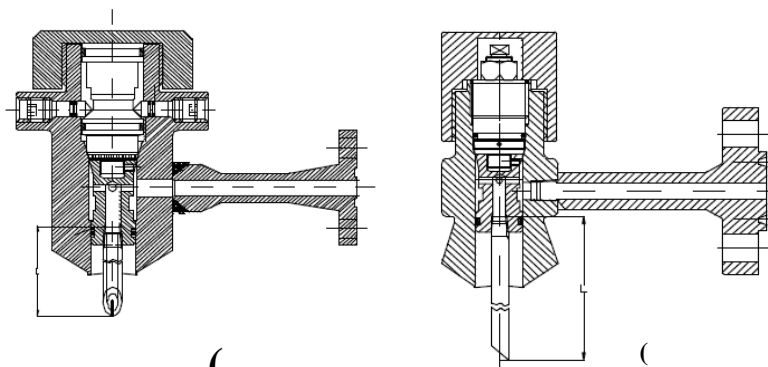

Figure 4 Hydraulic (1) and Mechanical (2) access fittings (Flanged type).
4.2.6 The chemical injection points in the vacuum deaeration column shall be flanged type (flange with 1") to use the column flange. In this case, the reference is Figure 4.